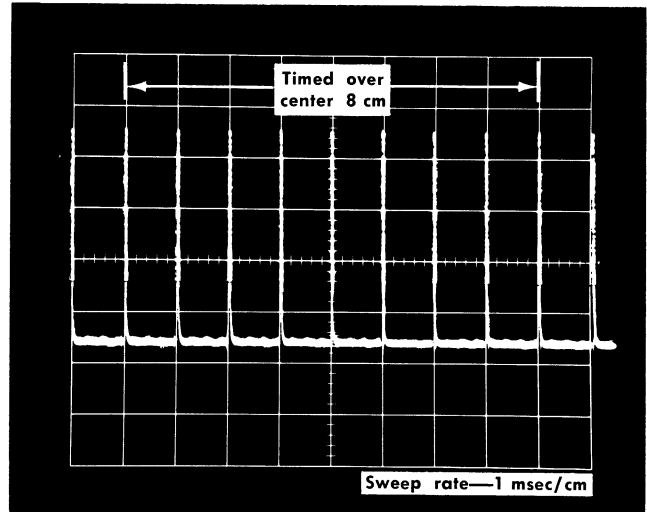

Fig. 5-15. Typical time-mark waveform for Real Time Sweep Cal check.
- f. **Check** for a display of 1 time mark/cm ( $\pm 3\%$ ) over the center 8 cm of the graticule. See Fig. 5-15.